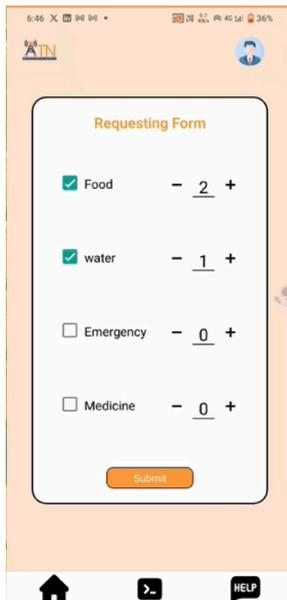

Fig 2.3: Specifying the required products
- Enter the required amounts for items like food and water in the respective fields as shown in figure 2.3.